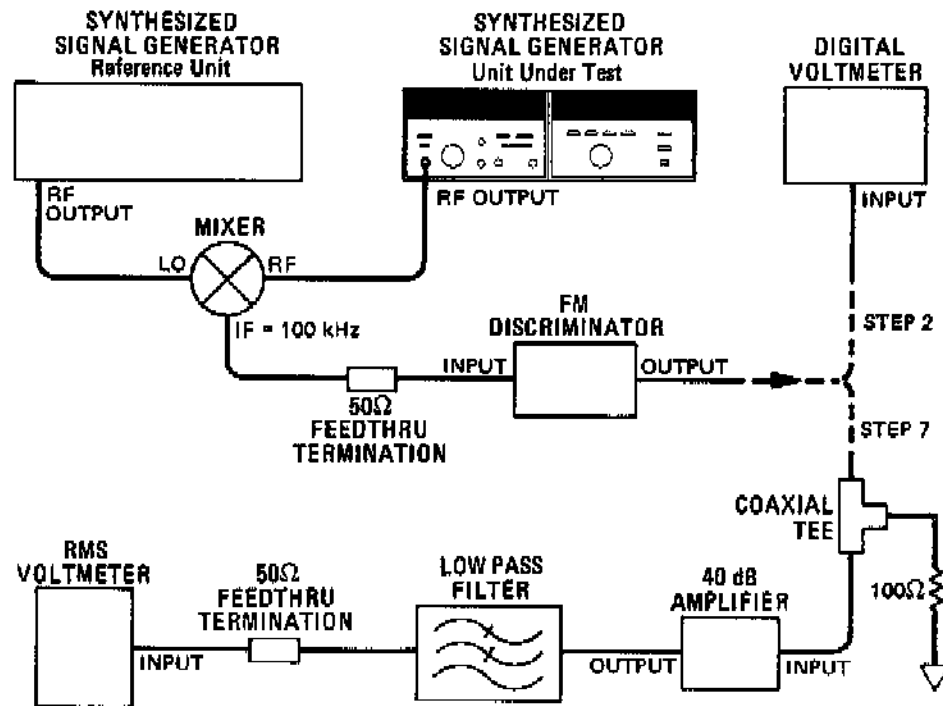

Figure 4-10. Residual FM in FM and CW Modes Test Setup
7. Connect the equipment as shown in Figure 4-10.